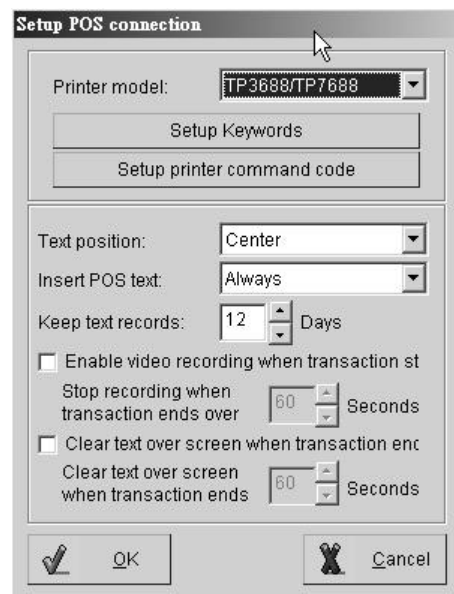

Fig 2-1.2
- **Setup POS connection (Please refer to Fig 2-1.2)**